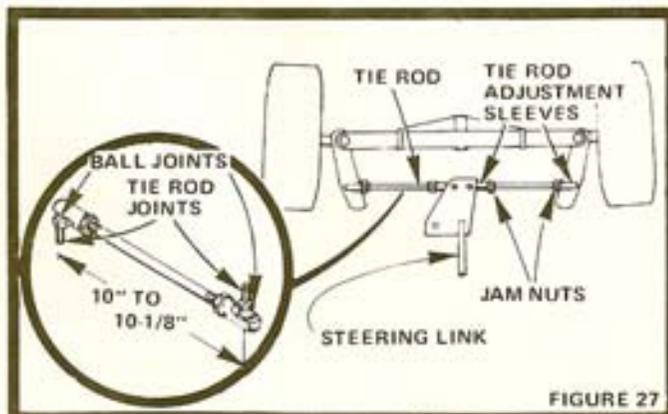

FIGURE 27
- Move Rubber Boots to expose Ball Joints on Tie Rods and Steering Link (Fig. 27).
- Loosen Jam Nuts (Fig. 27) at each end of Tie Rod Adjustment Sleeves.